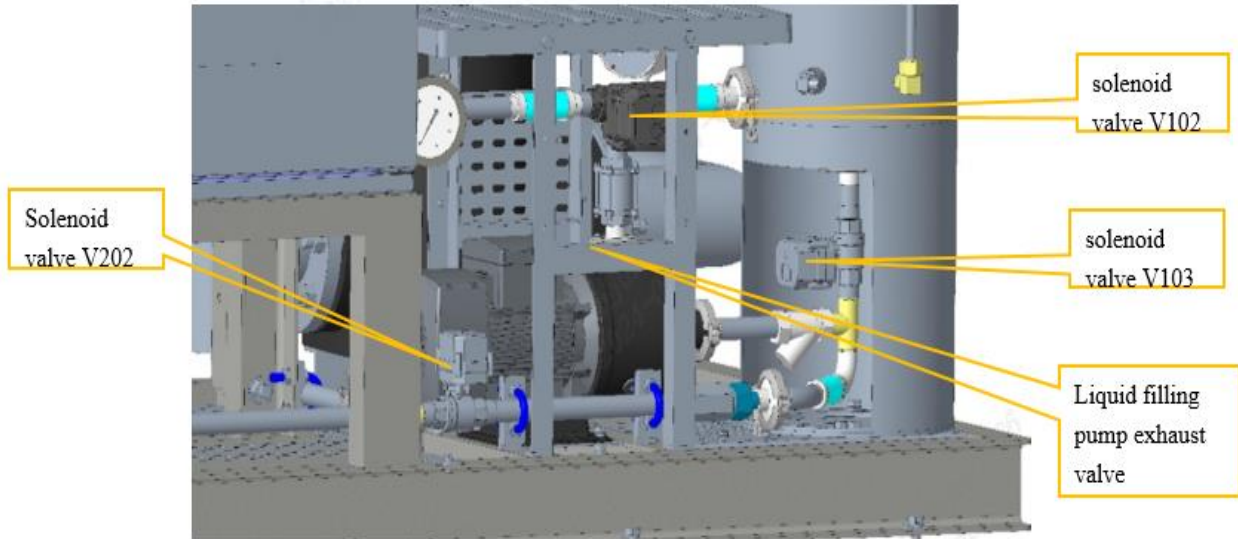

Figure 7-14 Distribution of solenoid valves in the Water filling system
- d) Close solenoid valve V202, switch to manual mode on the touch screen, and open the "Manual Water Replenishment" mode "External → System" of the Water filling system, which means adding Water to the system. Open "External → C21", which means adding Water to the water tank C21 externally, as shown in Figure 7-14 Distribution of solenoid valves in the Water filling system